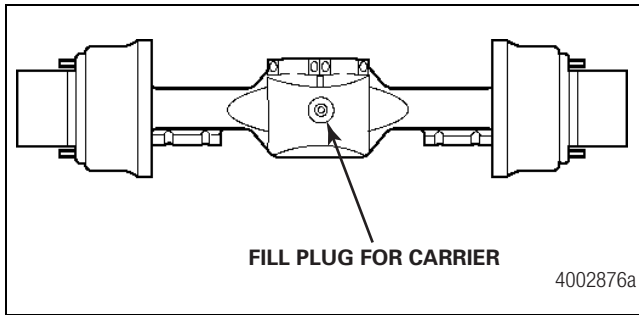

Figure 2.33
- The carrier fill plug is located in the axle housing bowl. Figure 2.33.